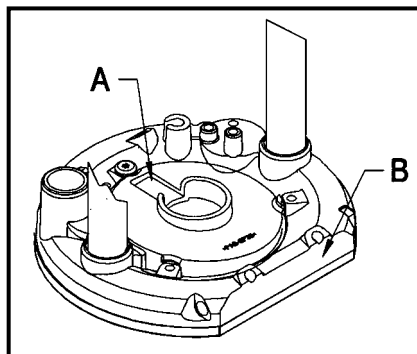

Fig. 6
NOTE: To ensure the proper dust collection operation, install the dust cover with the slot (A) Fig. 6 in top of dust cover. Position it opposite the flat side (B) Fig. 6 on the base.